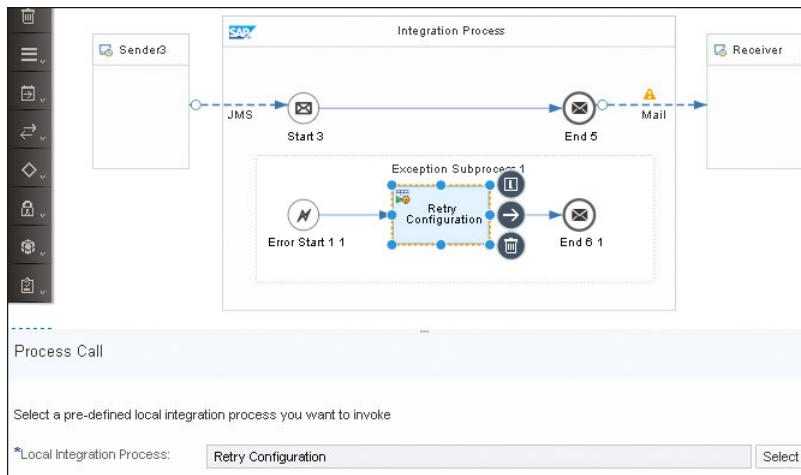

Figure 5.103 Configuration of the Process Call in the Exception Subprocess
5. Add a **Process Call** (from the **Call**  shape, submenu **Local Call**), and place it between the **Error Start** event and the **End** event of the newly added **Exception Subprocess**. In the properties area for the **Process Call**, select the local integration process **Retry Configuration** created before (Figure 5.103).